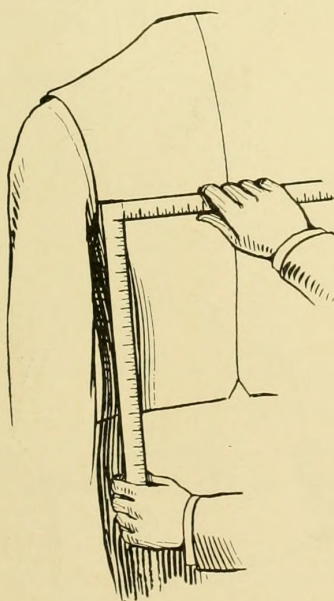
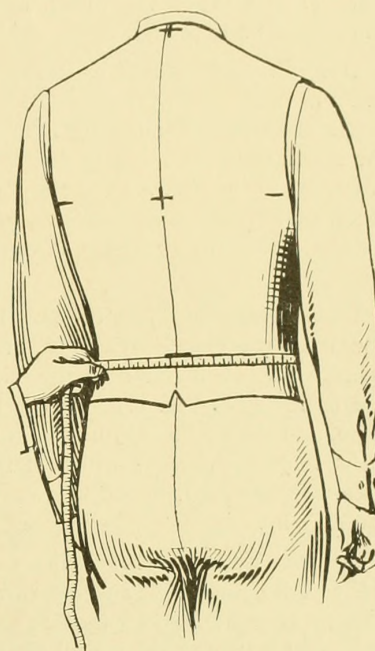

FIG. 4
FIG. 5
6. Remove the square and place the long arm across the back horizontally and make a cross mark for the depth of scye, or bottom of armhole, in the center of the back. (See Fig. 4.) If not sure of being able to do it correctly, place the long arm of the square under the right arm and mark back of the arm, the same as on the left side; then replace the square across the back and mark for depth of scye. (See Fig. 5.) This mark should be in the **center** of the back, regardless of where the vest seams run.
7. **Waist.**—Place the square at waist line above the hip bones, from the back, the short arm of the square resting on the hip bones, and extending forward; the location is found by the feeling of your hand; then mark the waist line. It can also be done with a tape-line. (See Fig. 5.)
Make a cross mark for the height of neck,  $1\frac{1}{4}$  inches down from the top edge of where the coat collar should be when finished. (See Fig. 5.)